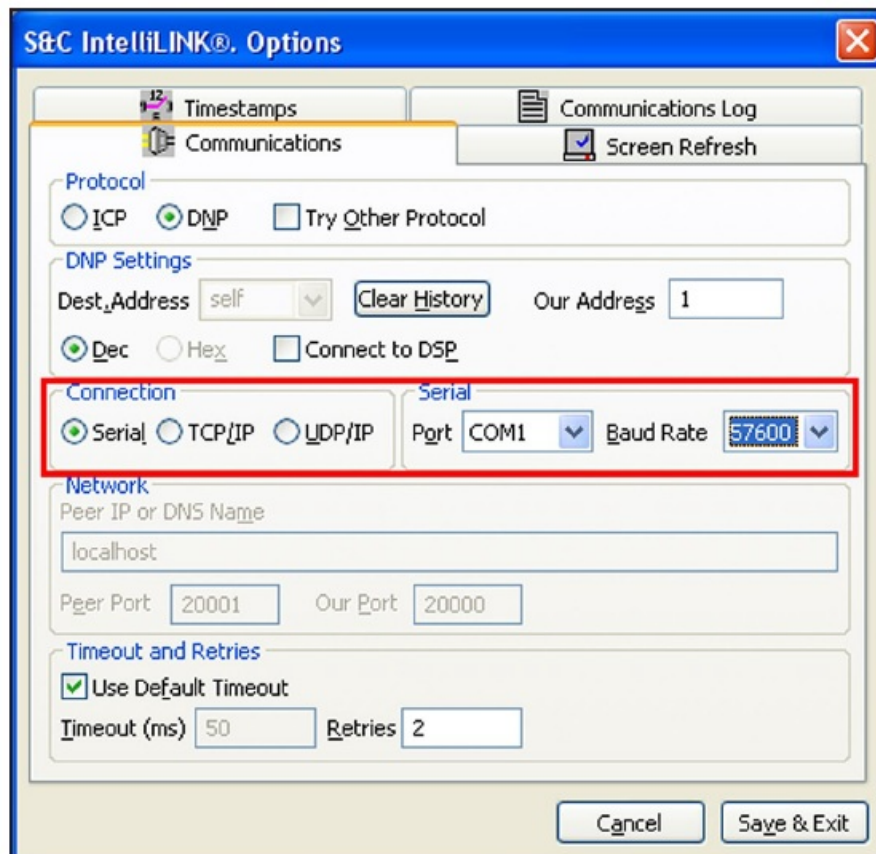

Figure 10. The IntelliLink Options dialog box.
- **STEP 3.** Click on the Change Setup... button. This will open the Options dialog box. Click on the Communications tab, shown in Figure 10. Change the connection from UDP/IP to Serial and select the correct COM port. In this case, the port is "COM1." The Baud Rate setting should be "57600." No other options should be changed.